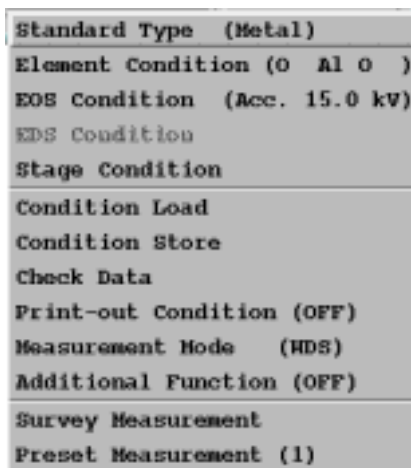
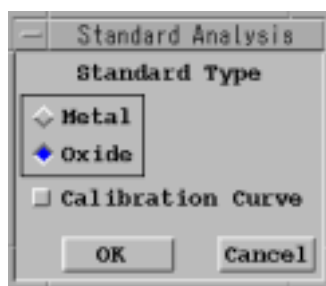

Fig. 7 Measurement menu
Fig. 8 Standard Type window
- ◆ Click on the **Measurement** button in the Standard Analysis function window. The Measurement menu opens as shown in Fig. 7. Click on any desired item to enter measurement conditions before starting the measurement.
1. Click on **Standard Type** in the Measurement menu of Fig. 7. The Standard Type window opens as shown in Fig. 8.
- ◆ Click on **Element Condition** in the Measurement menu of Fig. 7.